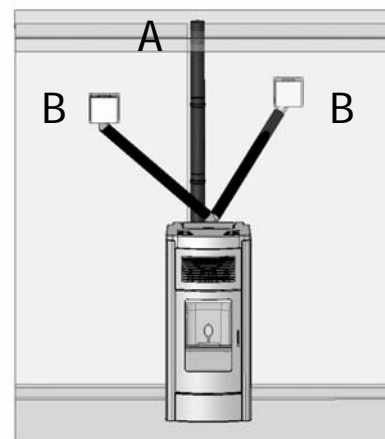

Figure 6 – Front view of air outlet system
In the example in figures 6 and 7 (front and rear view) the air duct is an equal length totaling 8 meters, or in other words the pipes (B) will have a length of approximately 4 meters each. In the case of ducts with different lengths, the total must always be maximum 8 meters (example 3 + 5 meters). In this case the heat will spread through the rooms in an uneven manner.